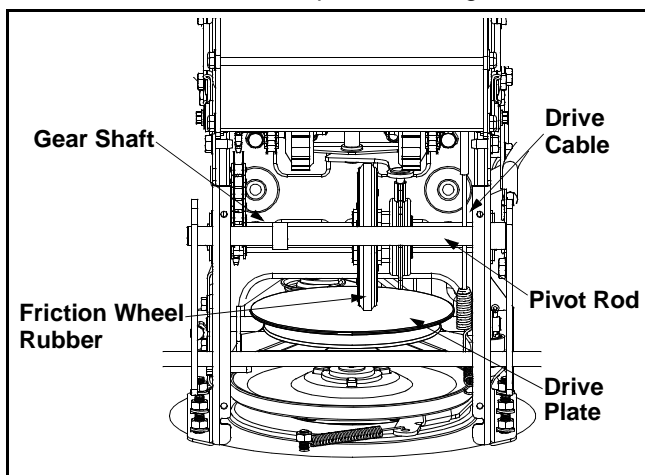

Figure 14
- With the traction control engaged, the friction wheel must contact the drive plate. See Figure 14.
Lubricate the gear shaft with 6-n-1 grease at least once a season or after every 25 hours of operation (available at automotive stores, or order part number 737-0170). Refer to Figure 14.
Lubricate at least once a season or after every 25 hours of operation. Remove the rear cover, lubricate any chains, sprockets, gears, bearings, shafts, and shifting mechanism at least once a season. Use engine oil or a spray lubricant. **Avoid getting oil on the friction wheel rubber and aluminum drive plate.** Refer to Figure 14.